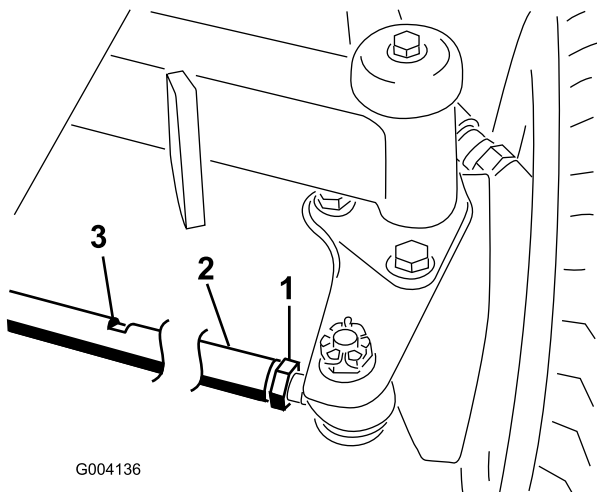

Figure 110
1. Loosen the jam nut on each end of the tie rod (Figure 110).